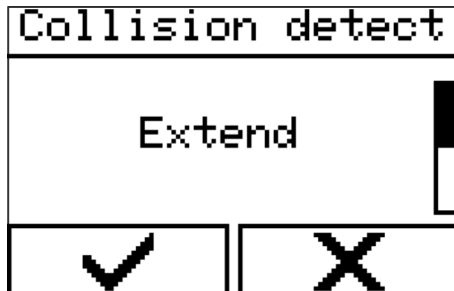

Fig. 109: Selecting the direction of travel
2. → Select the direction of travel 'Extend' or 'Retract' (in this case: 'Retract', Fig. 109).